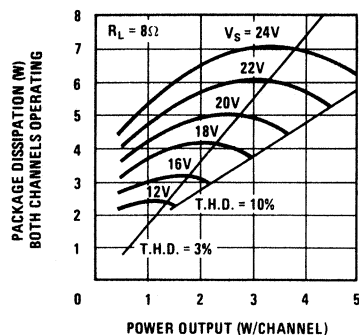

FIGURE 4.14.2 Power Dissipation vs. Power Output
Package dissipation is read directly from the "Power Dissipation vs. Power Output" curves that are found on all of the audio amp data sheets. Most data sheets provide separate curves for either 4, 8 or 16Ω loads. Figure 4.14.2 shows the 8Ω characteristics of the LM378.
When used for bridge configurations, package dissipation will be twice that found from Figure 4.14.2
1. From Figure 4.14.2, $P_D = 7W$.